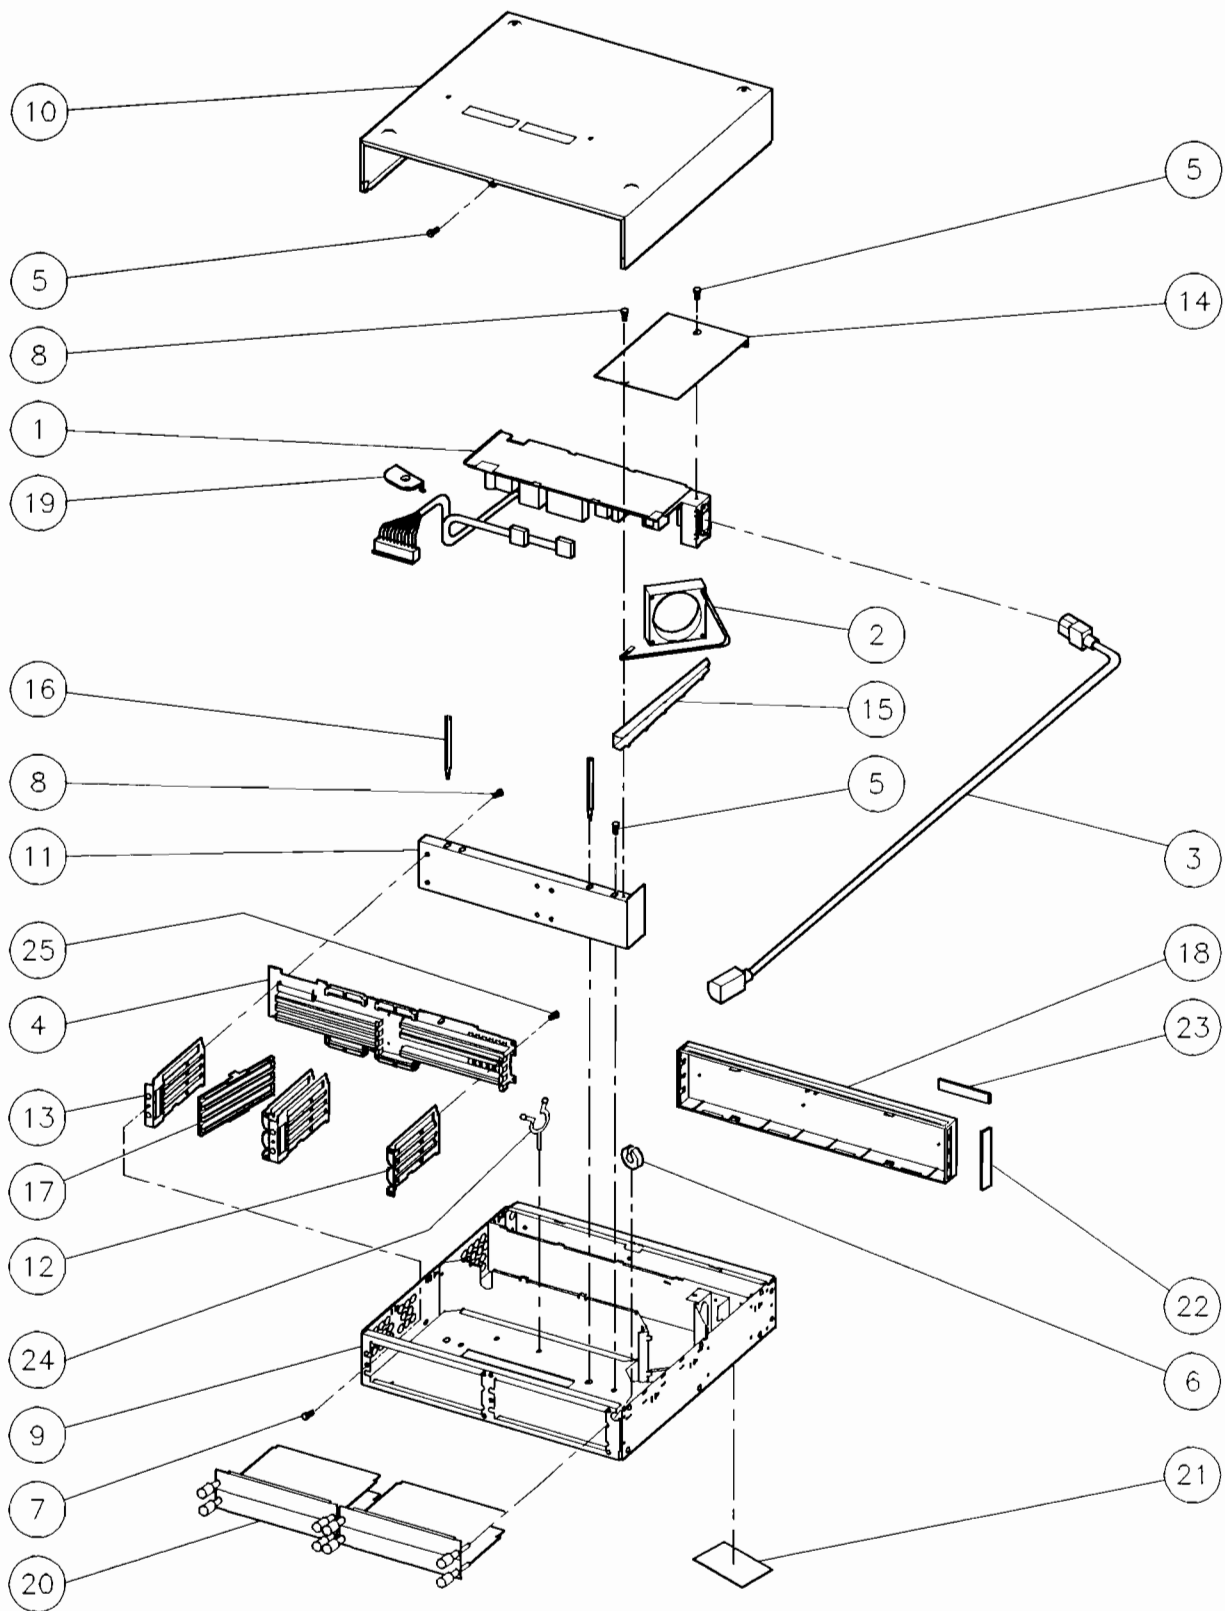

Figure 2-4. HP A2246A 4-Slot DIO-I Bus Expander Exploded View
- Exploded view shown in Figure 2-4 and Figure 2-5.